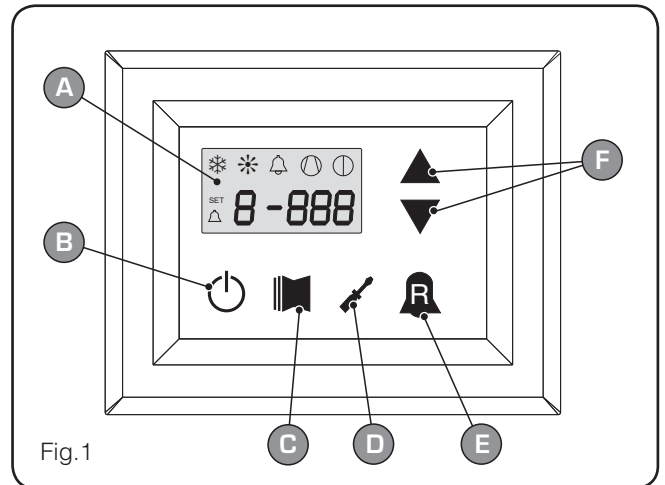

Fig.1
## • READINGS menu (key (C) Fig.1)
## • SETTINGS menu (key (D) Fig.1)
## • ALARM log (key (E) Fig.1)
### User interface (Fig.1)